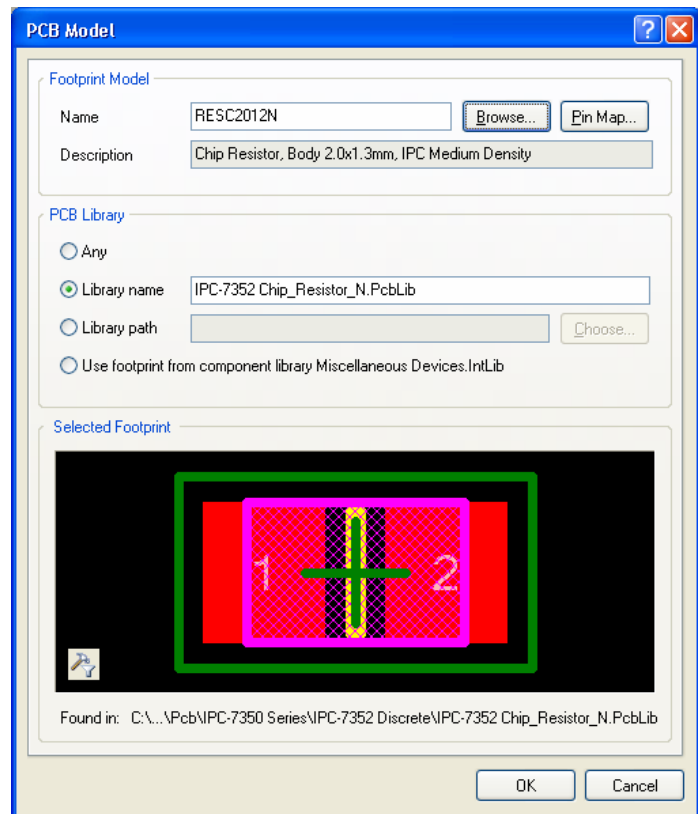

Figure 14. Configure the PCB Model dialog for the new resistor footprint.
9. The *PCB Model* dialog is now configured for the new footprint, as shown in Figure 14. Click **OK** to close the dialog and Add this footprint to the selected components.